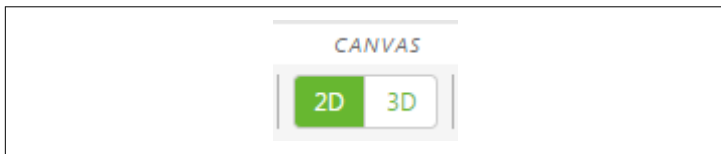

Figure 3-14. Clicking 2D on the canvas toolbar
1. On the canvas toolbar, click 2D as shown in Figure 3-14.